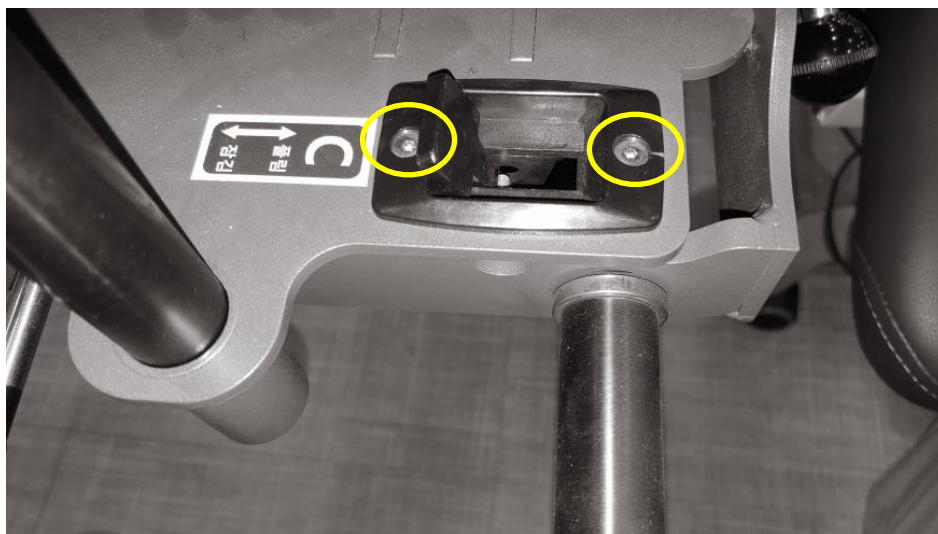

Figure 2.1
1. Remove the two 2.5 mm bolts (see Figure 2.1).